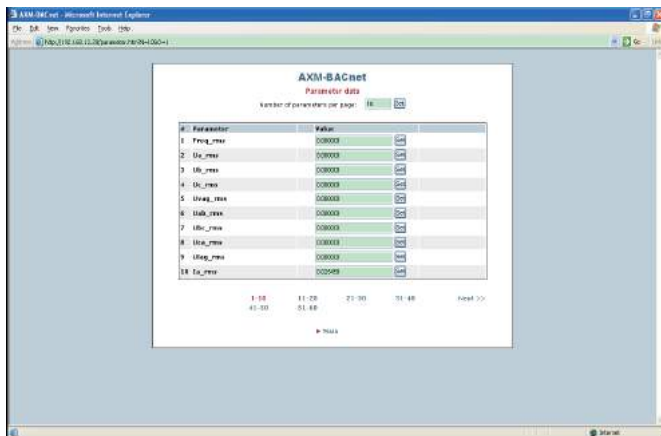

Fig 5-91
e). Set MAX INFO FRAM in the third setting page, such as 1. The BACnet MS/TP MAX INFO FRAM default value is 1, and the user defined range of MAX INFO FRAM is 1~255. Users may set the parameters pointed out in Fig 5-91. After setting the BACnet MS/TP MAX INFO FRAM, press the "V/A" key to accept. Press the "P" key to go to the fourth setting page for the module reset.